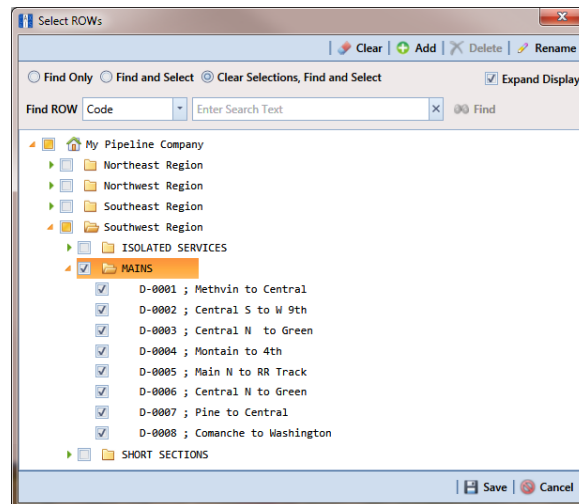

Figure 3-3. Select ROWs
- 1 If the *Select ROWs* window is not open, click **File > Select ROWs** (Figure 3-3).